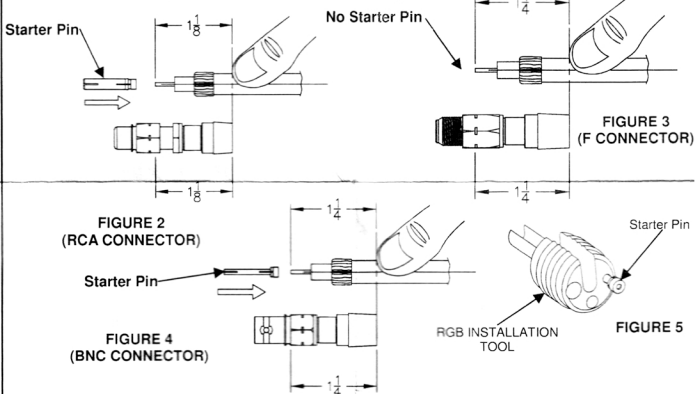

FIGURE 1
- Use an industry standard 1/4" x 1/4" cable prep tool. Assure that the braid is folded back onto the jacket as shown in Figure 1.